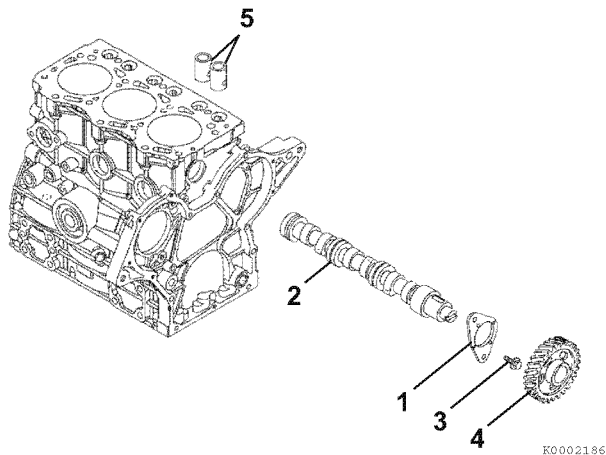

Figure 6-96
1. If removed, reinstall the camshaft end plate (**Figure 6-96, (1)**), key, and camshaft gear (**Figure 6-96, (4)**) onto the camshaft using a press.
2. Lubricate the camshaft (**Figure 6-96, (2)**) with clean engine oil or assembly lube. Slowly insert the camshaft through the front of the engine.
- Reinstall and tighten the cap screws (Figure 6-96, (3)).